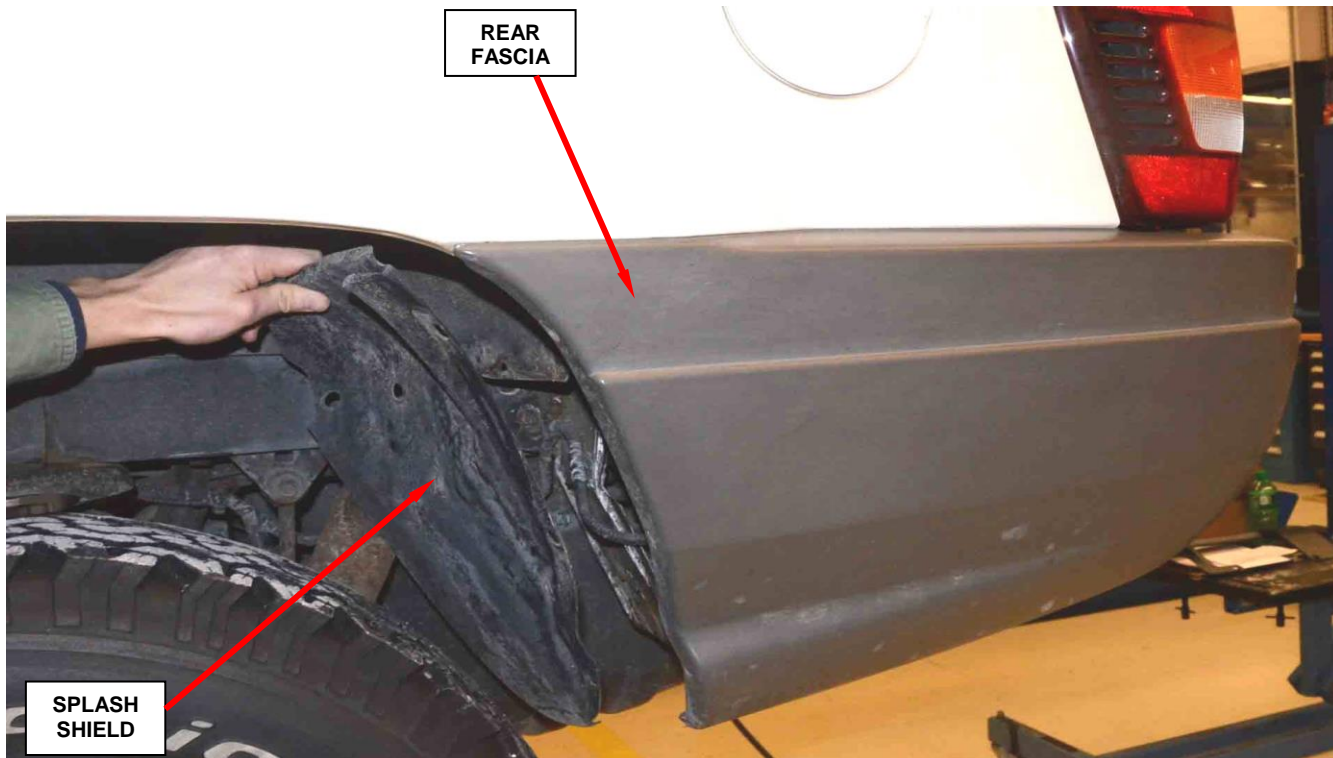

Figure 6 – Right and Left Rear Wheel Opening Splash Shield (left side shown)
11. Remove and save the right and left rear wheel opening splash shields (Figure 6).